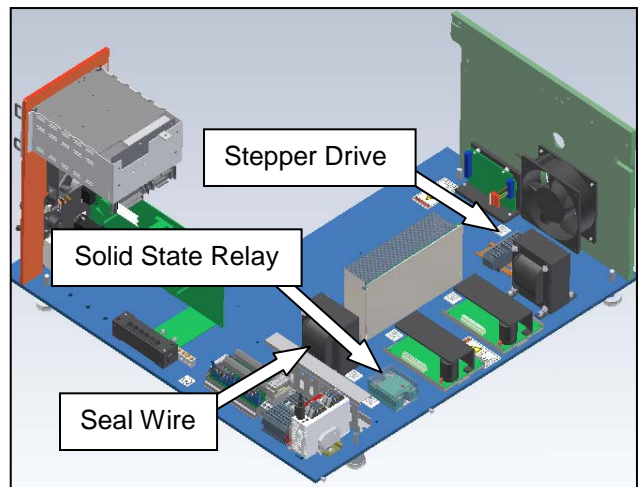

Figure 3-61. Transformer locations for the SX 1108 and 1109
4. Locate the transformer you wish to troubleshoot and proceed to that section (Figure 3-61).